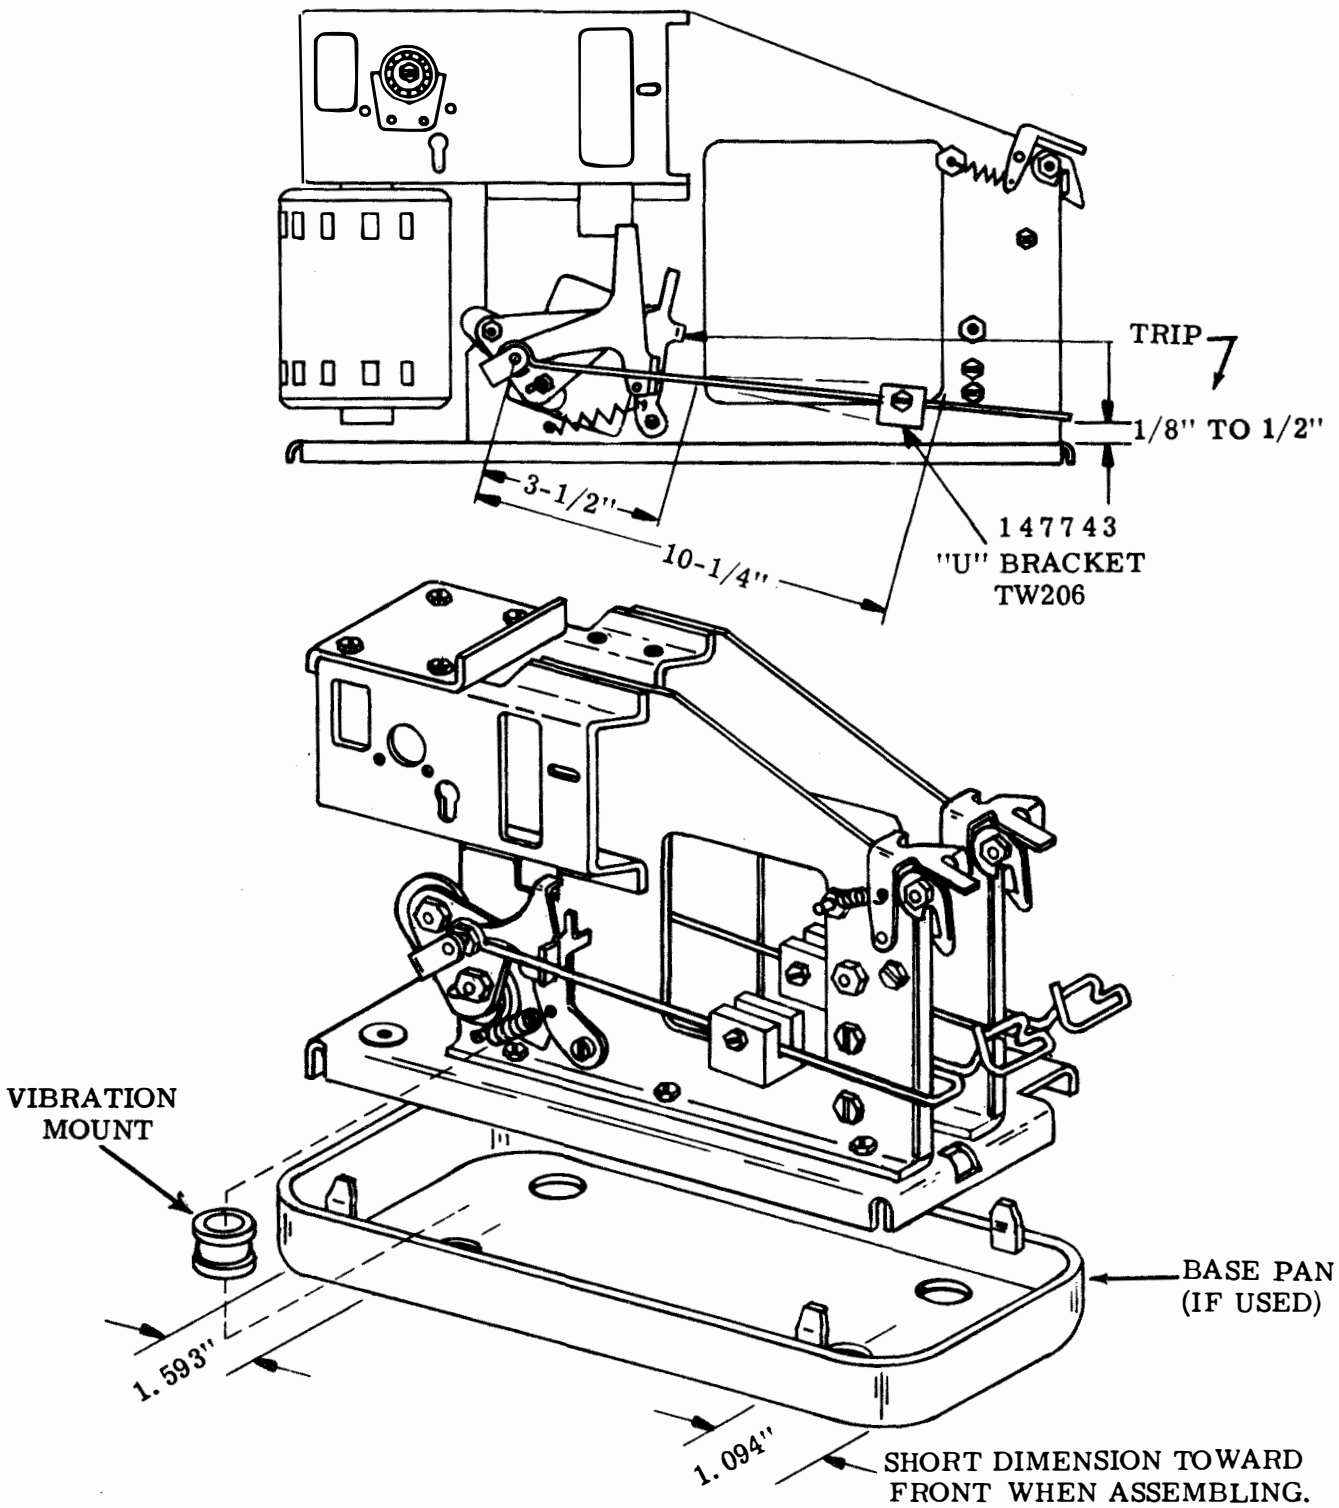

Figure 7
- (1) Assemble two 162714 arms to the 162708 pivot rod using two 151630 screws and two 2191 lockwashers. Do not assemble the remaining 162714 arm that rides the right hand tape reel.
- (2) Assemble the 151442 screw and 3598 nut to the center 162714 arm.
- (3) Solder the 164491 cable to the 164483 contact assembly.
- (4) Assemble the 164483 contact assembly and 172933 spring bracket to the 162705 motor mounting plate using the 110743 lockwasher and 3599 nut.
- (5) Install the pivot rod into the tape winder.
- (6) Install the 74701 spring and the remaining 162714 arm with its 151630 screw and 2191 lockwasher to the pivot rod.
- (7) Solder the remaining leads of the 164491 cable to the 6 pt. connector. See Wiring Diagram 5939WD. Use the two 155750 insulating sleeves to cover the soldered connections.
- (8) Insert the 119634 plug button into the opening on the 162700 bracket.
- (9) The actual WD for the TW207 is 7768WD.
d. Installation of the 194770** Modification Kit (Figure 5): Insert the flanges of the vibration mounts on the tape winder into the holes of the base pan, as follows: Turn the tape winder, with the vibration mounts upside down on a table top and place the base pan over the mounts. The holes in the pan which are closest to the end of the base should be toward the front of the winder (Figure 7). Push down on the base pan over each mount and insert the mount into the hole in the base pan using a screwdriver. A drop of oil on the mount will permit easier assembly. Place the cover over the winder and rest it on the pan.
(3) The 163528 latch should be free to operate between the 162718 arm and 163526 bracket.
(4) Repeat the above procedures several times and check that the parts move freely without binding and rubbing on each other. To adjust, straighten or replace any bent or binding parts.
g. TAPE ARM SENSITIVITY (TW206 or TW207) (Figure 7) - The tape sensing arm should cause no excessive pulling on the tape running through the reader or punch. To adjust, slide the "U" bracket toward the rear of the winder to obtain maximum sensitivity of the tape arm. With the winder pulling tape under operating conditions, observe that the sensing arm must exert sufficient pull on the tape. If necessary, slide the "U" bracket forward to increase the pull. The "U" bracket should fall within the range of 3-1/2 inches to 10-1/4 inches from the pivot point of the 147710 tape arm.